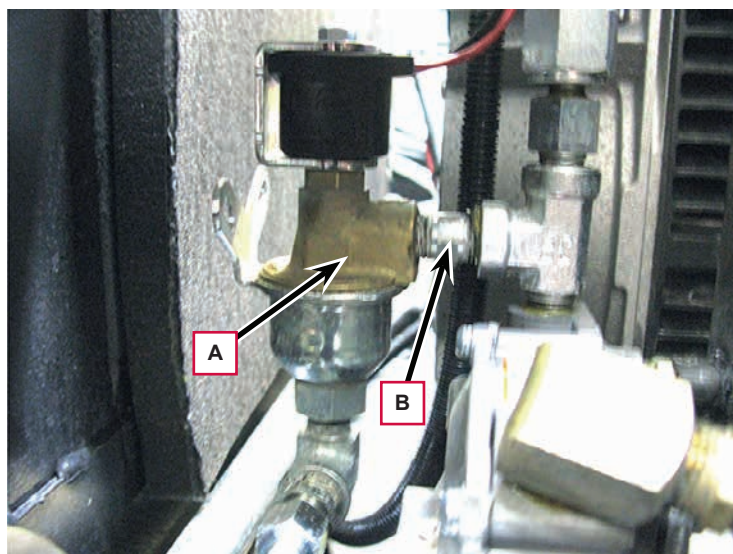

Figure 22
7. Unscrew the screws (A, Figure 22) and remove the case (B).